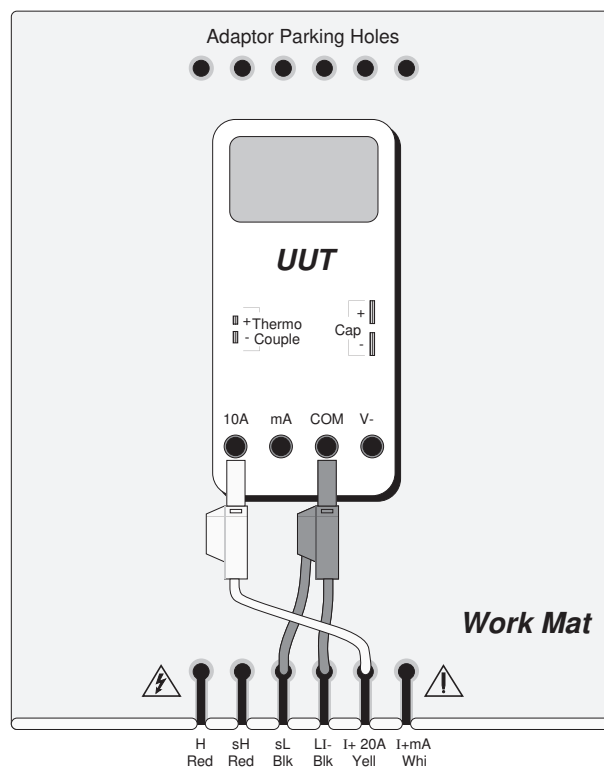
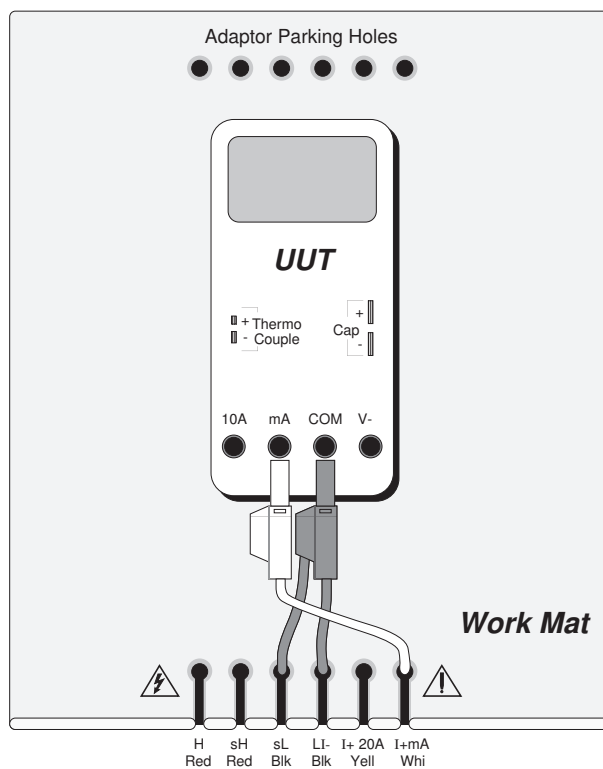
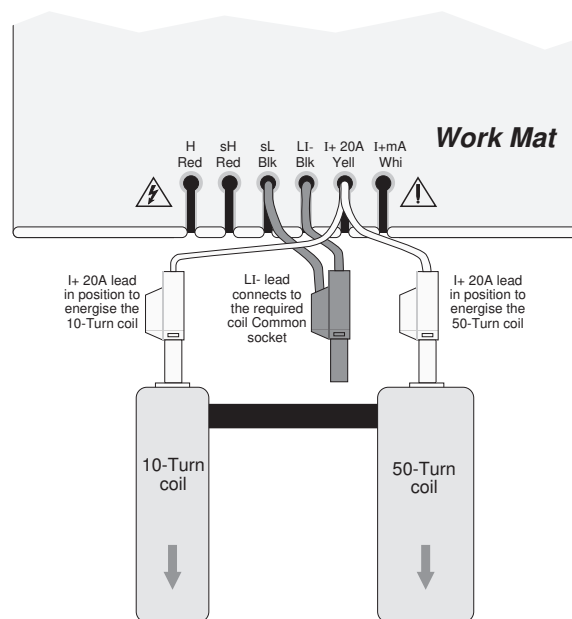

Fig. 6.1
Fig. 6.2
Fig. 6.3
The general connection schemes for UUT calibration of AC Current Function are illustrated in *Figs. 6.1, 6.2 and 6.3.*
1. Connections Connect the 9100 to the UUT as shown in Fig. 6.1, 6.2 or 6.3/4/5, and ensure that both instruments are powered ON and warmed up.
a. Use the front panel controls to set the 9100 Output to the UUT cal point frequency, current and output form (SELECT OUTPUT key). Reconnect (Fig 6.1, Fig 6.2, or Fig 6.3/4/5) as required.
Connect the 9100 to the UUT as shown in *Fig. 6.1, 6.2 or 6.3/4/5*, and ensure that both instruments are powered ON and warmed up.
a. Use the front panel controls to set the 9100 Output to the UUT cal point frequency, current and output form (SELECT OUTPUT key). Reconnect (*Fig 6.1, Fig 6.2, or Fig 6.3/4/5*) as required.